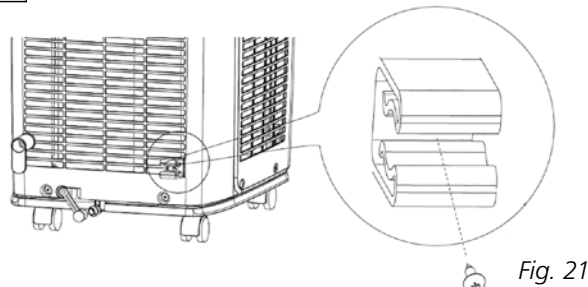

Fig. 21
- 3 Fit the hose holder G (see fig. 1) to the rear of the air conditioner (see fig. 21).